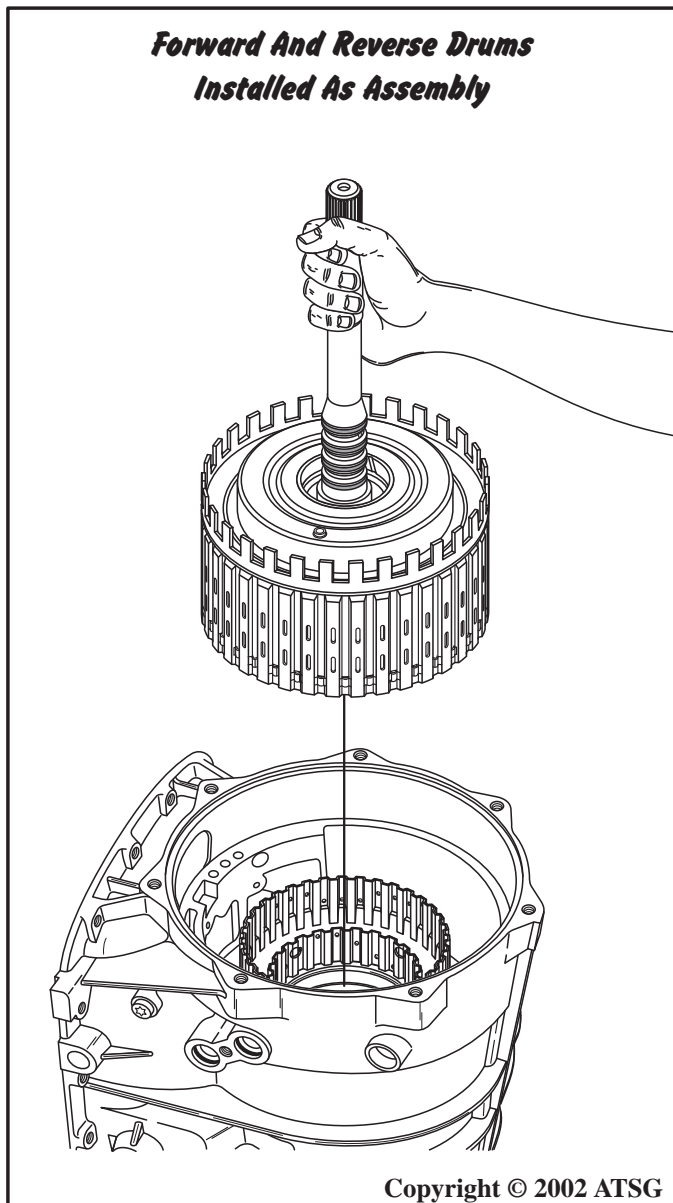

Figure 188
20. Install the pre-assembled forward/coast clutch housing and reverse clutch housing as assembly as shown in Figure 188, by rotating back and forth to engage the three sets of clutches.